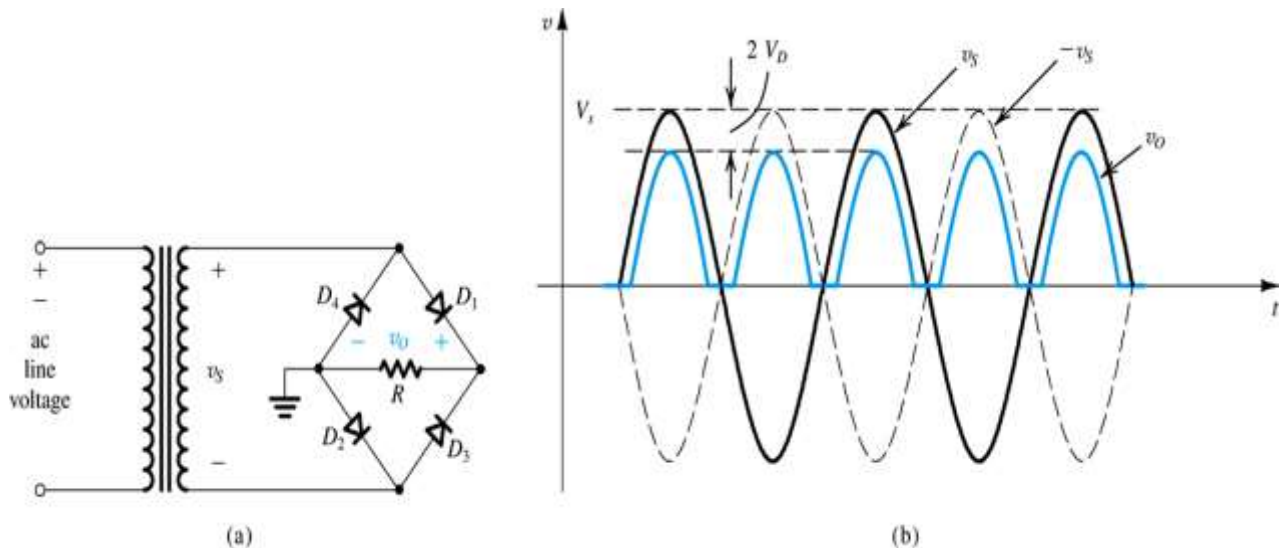

Fig. 5(a) – A bridge rectifier circuit, (b) Input and output waveform
**VII. Theory** – A bridge rectifier circuit, shown in Fig. 5 below rectifies ac into a dc voltage. In the positive cycle of the waveform, diodes  $D_1$  and  $D_2$  conduct. In the negative cycle of the waveform, diodes  $D_3$  and  $D_4$  conduct. The output  $V_o$  is measured across  $R$ . However there are two limitations.